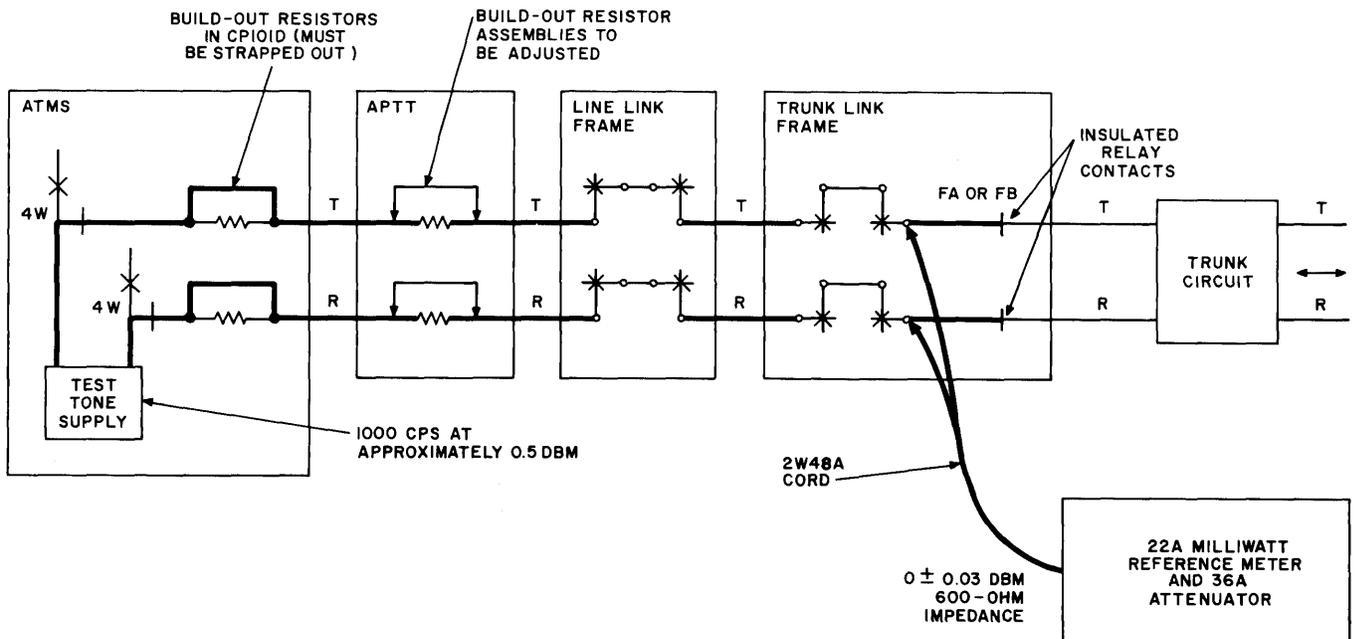

Fig. 2—Test Setup for Adjusting Build-Out Resistors for 2-Wire Trunks
A. 2-Wire Trunk Build-Out (Fig. 2)